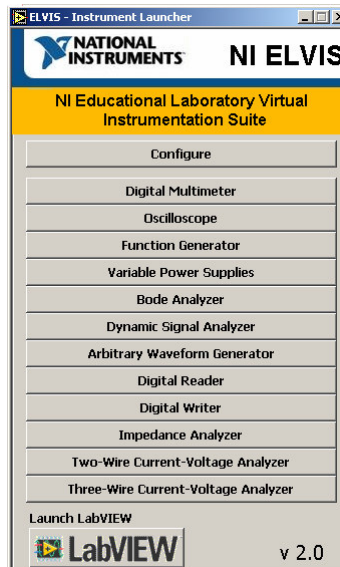

Fig. 6. NI Elvis Software interface.
5. Go to the program menu on your computer and launch the NI Elvis program. The interface should appear on your screen as shown in figure 6. This interface shows all the Virtual Soft Front Panels (SFP) available in NI Elvis.